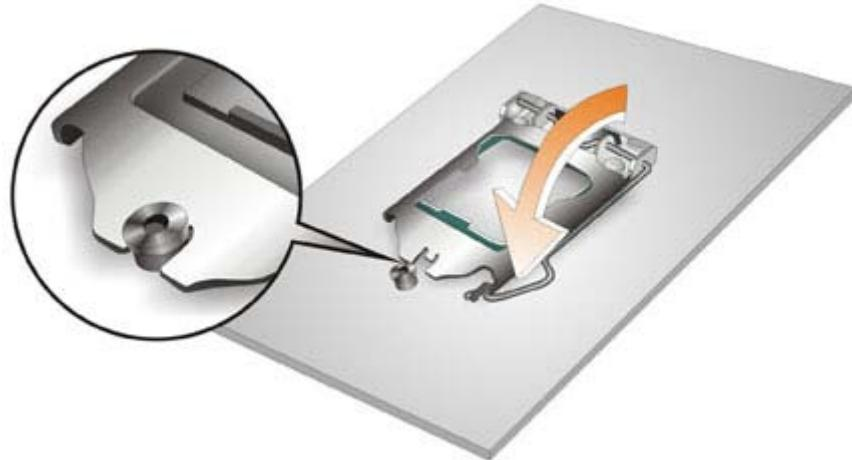

Figure 4-4: Close the Socket LGA1365
Step 8: Close the CPU socket. Close the load plate and pull the load lever back a little to have the load plate be able to secure to the knob. Engage the load lever by pushing it back to its original position (**Figure 4-4**). There will be some resistance, but will not require extreme pressure.